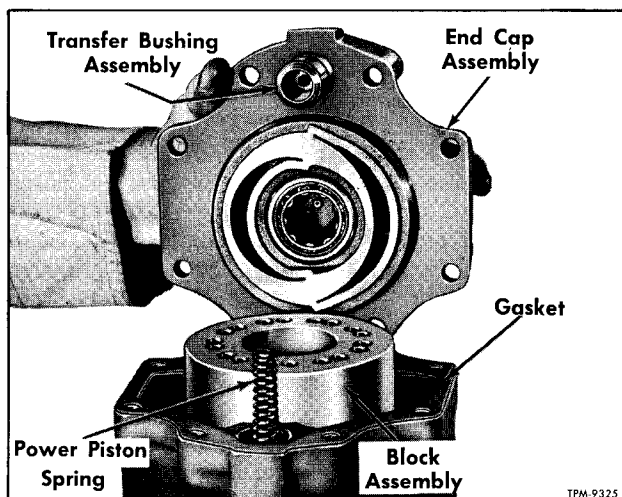

Figure 43—Pump End Cap Assembly Removed
5. SLIDE end cap (19) off cylinder block face. See figure 43 which shows cover removed. End cap gasket (18) can be removed from pump housing (45).
6. Referring to figure 43, pull or twist transfer bushing assembly (39) from end cap. Also lift power piston spring (40) from bore in housing.